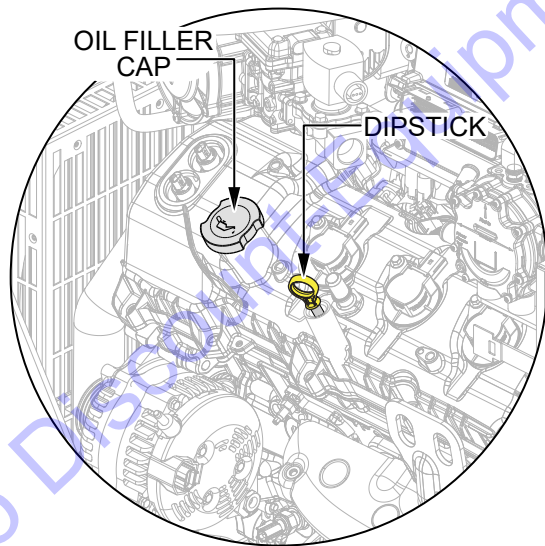

Figure 22. Engine Oil Components
3. Pull the engine oil dipstick (Figure 22) out of its holder and wipe it with a clean cloth.
6. If the oil is below the lower mark on the dipstick, remove the oil filler cap (Figure 22) and add engine oil up to the upper mark on the dipstick. Refer to Table 6 for recommended oil viscosity.